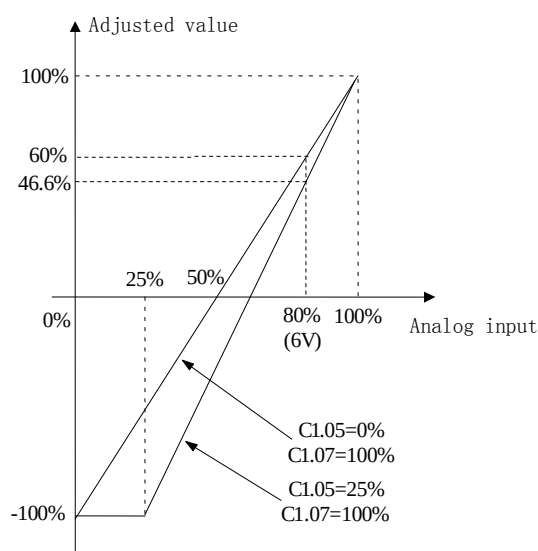

Fig.6-42 Regulation curve of reference
1. Fig.6-42, 0%~100% in X axis is corresponding to analog input $-10V \sim 10V$, 10V of analog input is corresponding to 100%, and $-10V$ is corresponding to 0%, 6V is corresponding to 80%.